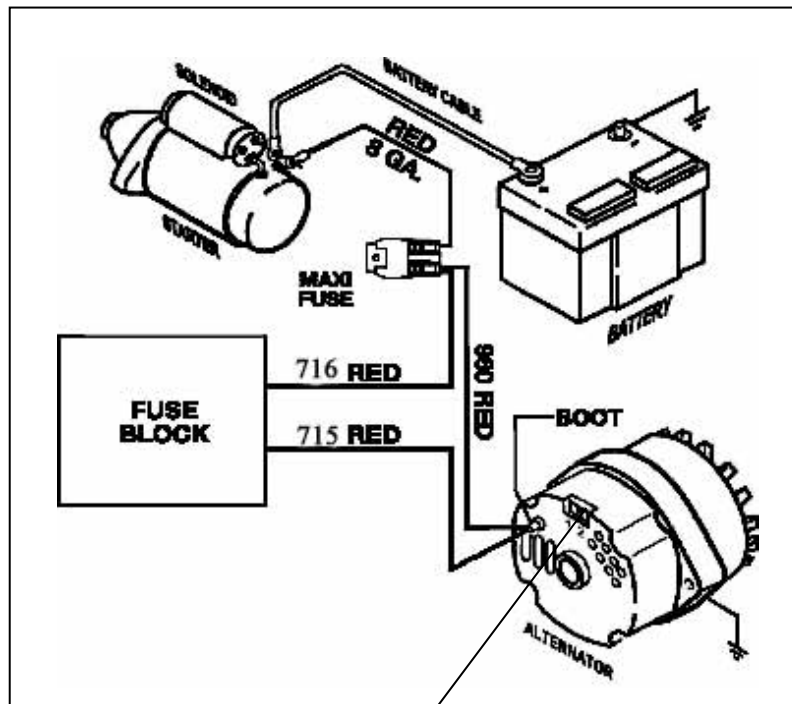

Figure 7-2B High Output Wire
- 7.3.1 Connect ALTERNATOR SECTION wire #715 (red) to the Alternator Output lug (Bat). Insulate and stow ALTERNATOR SECTION wire #714 (wht). Do not install jumper wire. No wires are connected to Alternator terminals 1 & 2. If alternator output is greater than 65 amps refer to Figure 7-2B and the caution below.
CAUTION: IF USING AN ALTERNATOR WITH AN OUTPUT LARGER THAN 65 AMPS, YOU WILL ALSO NEED TO USE THE RED 10 GAUGE WIRE #960 AND THE RED 8 GAUGE WIRE INCLUDED IN THE BOX. THE WIRE END WITH THE RING TERMINAL AND RUBBER BOOT WILL CONNECT TO THE ALTERNATOR OUTPUT LUG WITH #715. ROUTE THE OTHER END TO THE MAXI FUSE TERMINAL WITH WIRE #716. CUT THE WIRE AND CRIMP ON A RING TERMINAL. NOW INSTALL A RING TERMINAL ON THE REMAINING RED 8 GAUGE WIRE AND ATTACH IT TO THE STARTER SIDE TERMINAL OF THE MAXI FUSE. CUT THE 8 GAUGE RED WIRE TO LENGTH, CRIMP ON A RING TERMINAL AND ATTACH IT TO THE MAIN SOLENOID LUG WITH THE POSITIVE BATTERY CABLE. SEE FIGURE 7-2B.
CAUTION: IF USING AN ALTERNATOR WITH AN OUTPUT LARGER THAN 65 AMPS, YOU WILL ALSO NEED TO USE JUMPER WIRE #960 (RED), INCLUDED IN BOX. THE WIRE END WITH THE RING TERMINAL AND RUBBER BOOT WILL CONNECT TO THE ALTERNATOR OUTPUT LUG. ROUTE THE OTHER END TO THE STARTER RELAY. CUT THE WIRE AND CRIMP ON A RING TERMINAL. INSTALL ON RELAY TERMINAL WITH CABLE COMING FROM BATTERY. SEE FIGURE 7-2B.